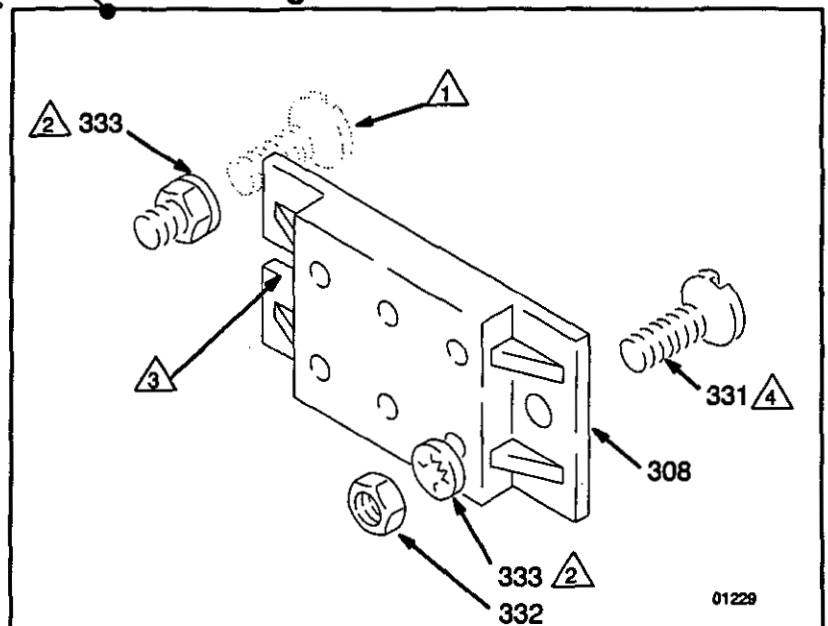

Fig. 18
The lockwashers (333) must be in front of the bridge to avoid overheating which will result in bridge failure. Refer to the Detail in Fig. 18.
Refer to Fig. 18.